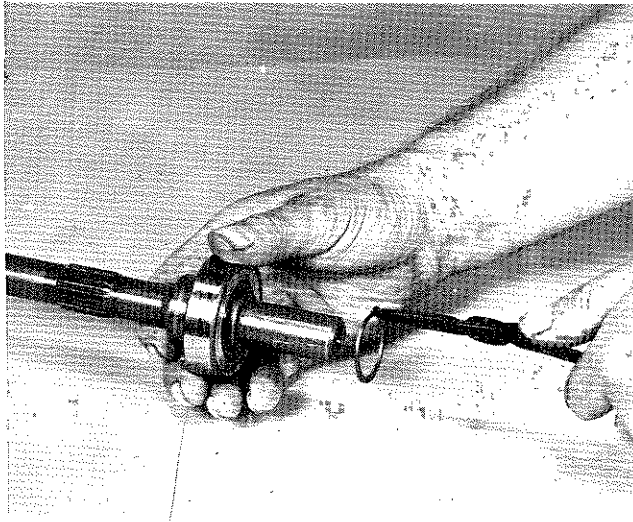

Figure VI-28. Removal of Shaft
- c. Remove the bearing from the shaft, first removing the snap ring as shown in Figure VI-28.